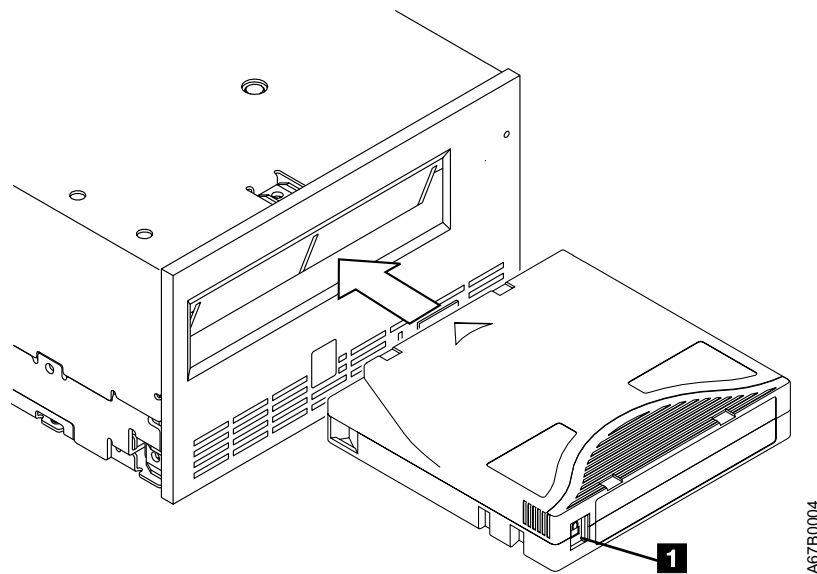

Figure 9. Inserting a Cartridge into the Ultrium Tape Drive
3. Grasp the cartridge so that the write-protect switch faces you (see **1** in Figure 9).
Clean the drive head whenever **C** displays on the single-character display and the status light is solid green. To clean the head, insert the cleaning cartridge into the tape load compartment (see Figure 9 on page 26). The drive performs the cleaning automatically. When the cleaning is finished, the drive ejects the cartridge. The IBM LTO Ultrium Cleaning Cartridge is valid for 50 uses.